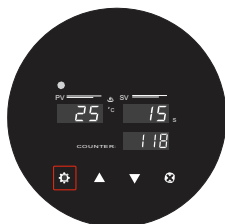
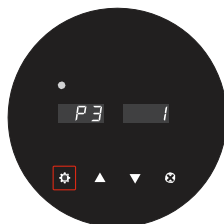

Fig. 11
Fig. 12
1. Long press (⚙️) set button on the control panel (Fig.11) about 8 seconds, and the machine will enter into the internal setting . Then Press (⚙️) the set button twice until its shown like this. (Fig.12).